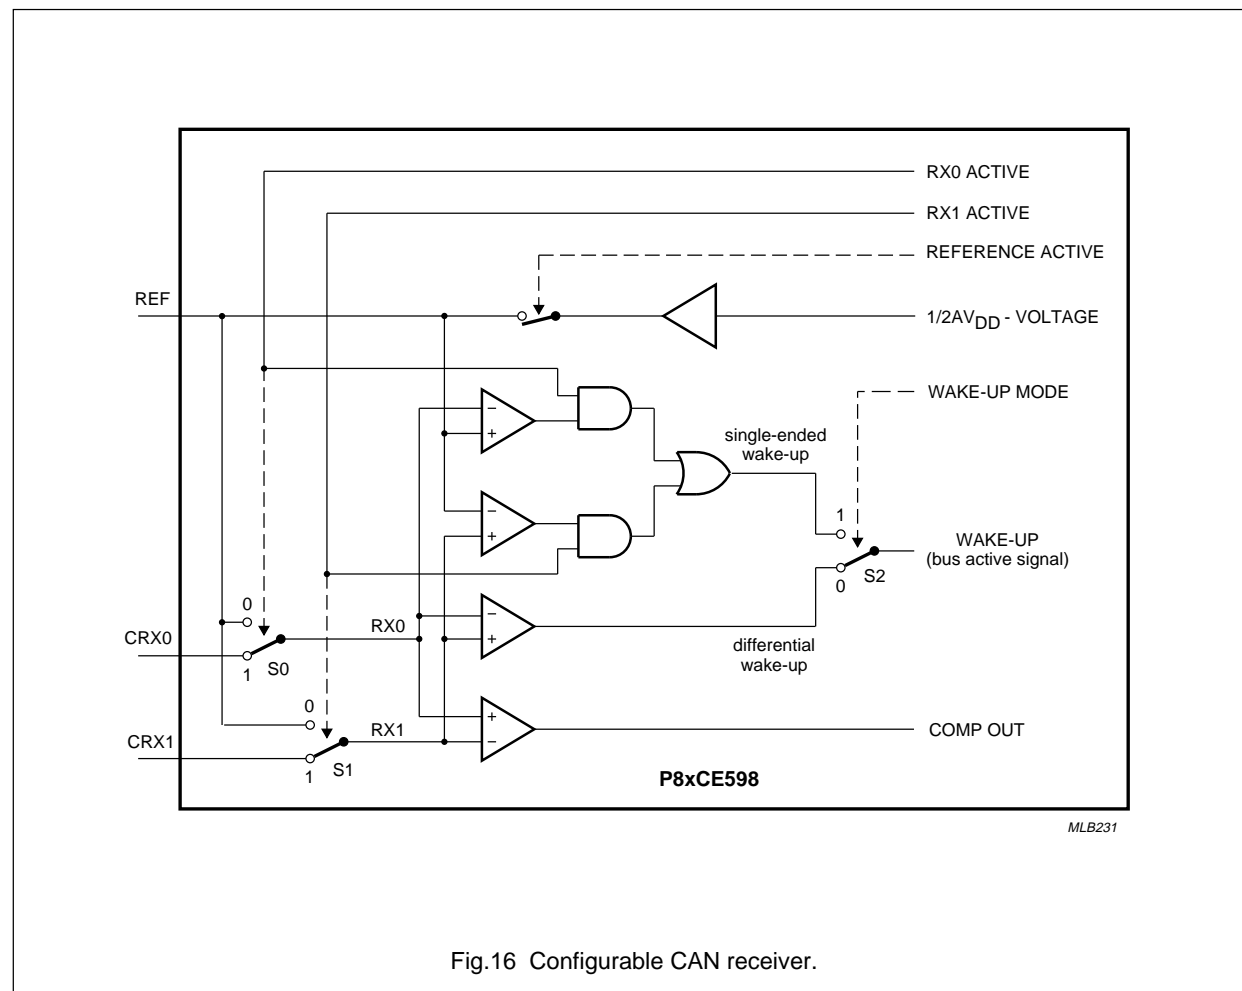

Fig.16 Configurable CAN receiver.
1. The RX0/RX1 Active bits, if being read, reflect the status of the respective switches (see Fig.16). It is recommended to change the switches only during the reset state (Reset Request = HIGH).
2. The Wake-Up Mode bit should be set at the same time as the Sleep bit. The differential wake up mode is useful if both bus wires are fully functioning; it minimizes the amount of wake ups due to noise. The single ended wake up mode is recommended if a wake up must be possible even if one bus wire is already or may become disturbed (see Fig.16).
**Table 35** Combination of bits RX0A and RX1A (see Fig.16)